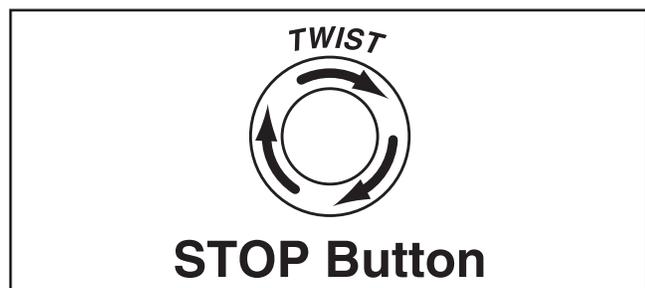

Figure 27. Resetting the Emergency STOP button.
7. Twist Emergency STOP button clockwise until it pops out (see **Figure 27**)—this resets button so machine can start.